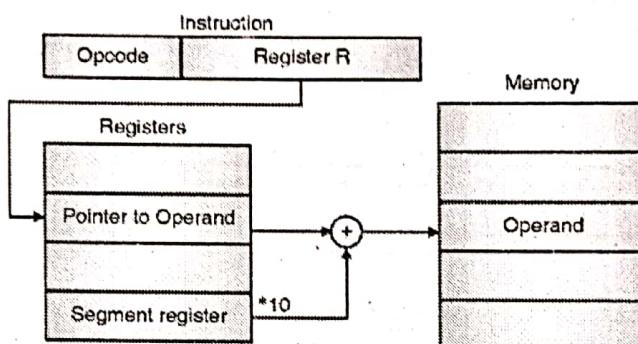

Fig. 6- Q. 5(a) : Register indirect addressing modes
- In this addressing mode the effective address is given by a base register or an index register, specified in the instruction. This effective address is added with the segment register * 10H to generate the physical address as shown in Fig. 6- Q. 5(a).